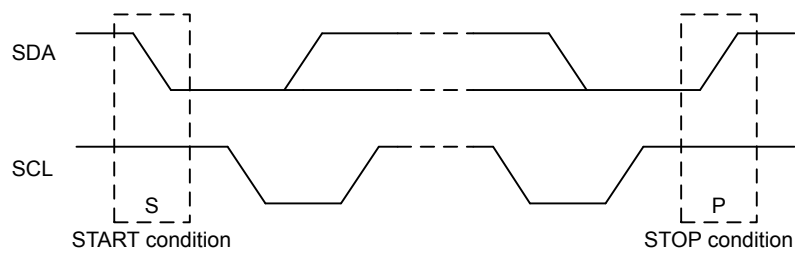

Figure 21.4. I2C START and STOP Conditions
START and STOP conditions are used to initiate and stop transactions on the I²C-bus. All transactions on the bus begin with a START condition (S) and end with a STOP condition (P). As shown in Figure 21.4 I2C START and STOP Conditions on page 556, a START condition is generated by pulling the SDA line low while SCL is high, and a STOP condition is generated by pulling the SDA line high while SCL is high.